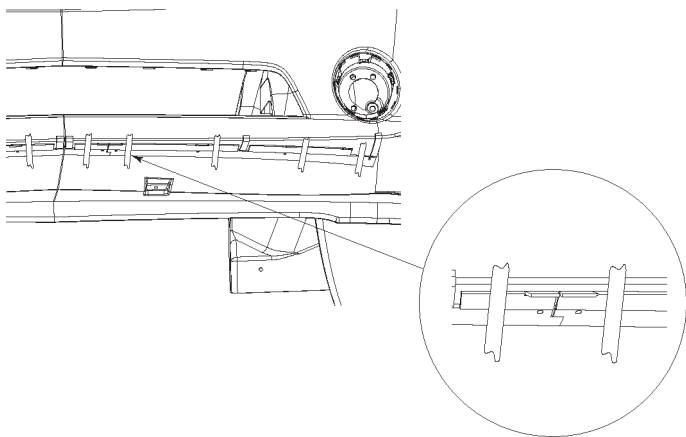

FIGURE 51
8. Use the locating features to position the LH clamp onto vehicle fascia and tape into position. Refer to figure 51.